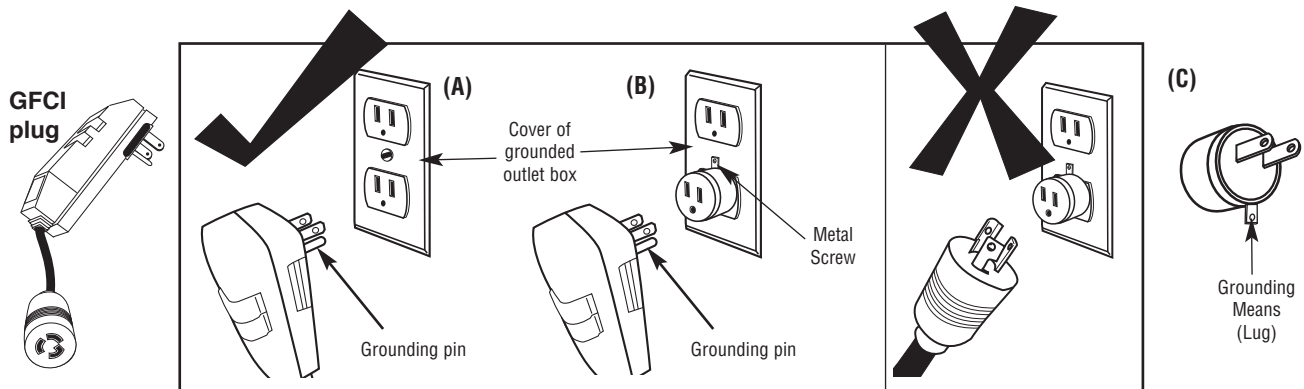

Figure 5
7. This saw is intended for use on a circuit that has an outlet that looks like the one illustrated in *Figure 5*. The GFCI plug used on the saw has a grounding
plug that looks like the plug illustrated in *Figure 5(A)*. A temporary adaptor, which looks like the adaptor illustrated in *Figures 5(B)* and *5(C)*, may be used to connect the GFCI plug to a 2-pole receptacle, as shown in *Figure 5(B)*, if a properly grounded outlet is not available. The temporary adaptor should be used only until a properly grounded outlet can be installed by a qualified electrician. The green-colored rigid ear, lug, etc., extending from the adaptor must be connected to a permanent ground, such as a properly grounded outlet box.